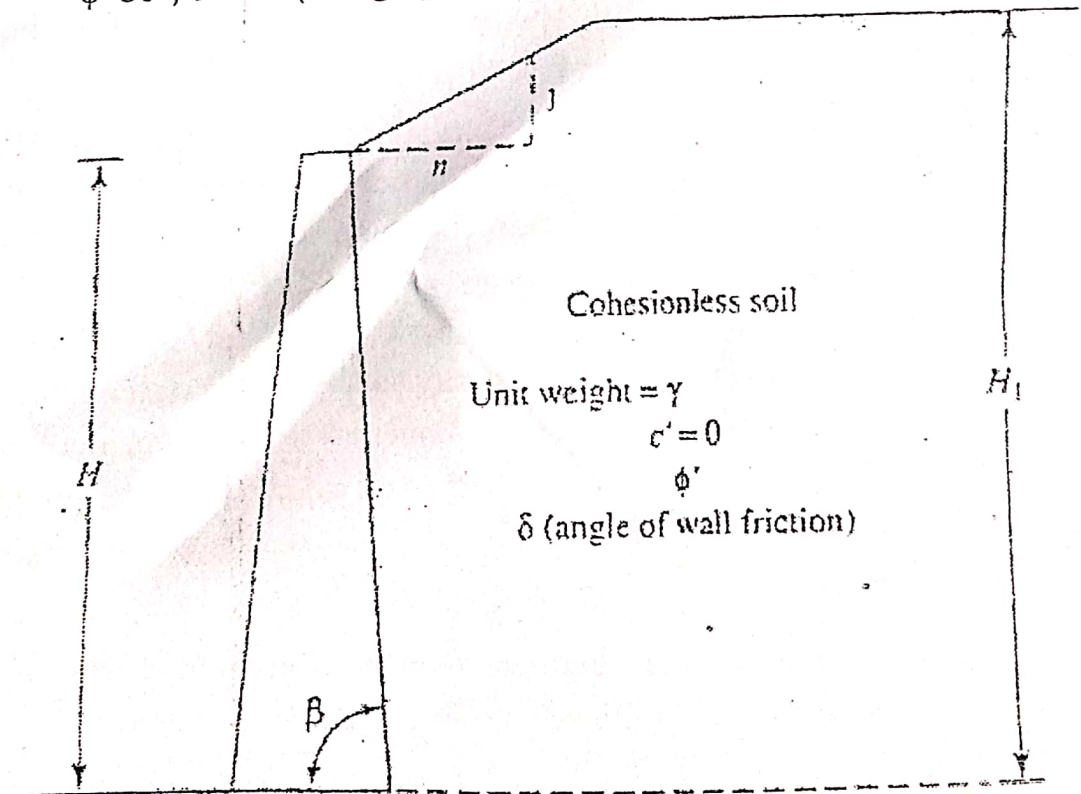

Fig. 1(b)
- (b) Use Culmaan's graphical procedure to determine the Coulomb's active force (P_a) per unit length of the wall in the following case [Figure. 1(b)]: $H=5.5$ m, $H_1= 6.5$ m, $\gamma=1680$ kg/m³, $\beta=80^\circ$, $n=1$, $\phi=30^\circ$, $\delta=30^\circ$. (Use graph paper if necessary). 8